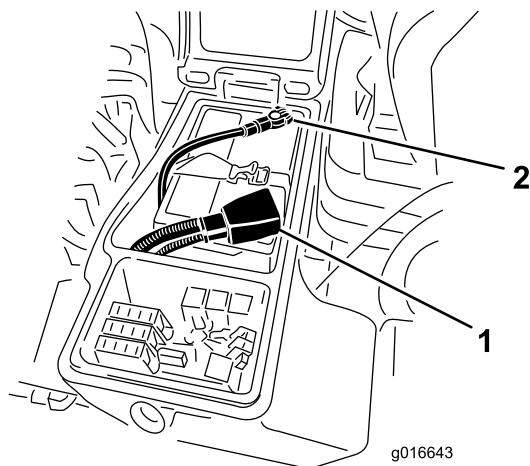

Figure 86
3. Disconnect the negative battery cable (Figure 86).